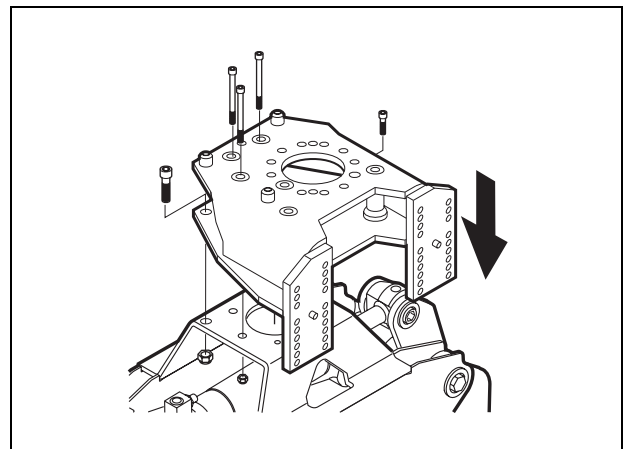

Fig. 21 Assemble the rotator bracket to the grapple
3. Assemble the rotator bracket to the grapple. *See Fig. 21*.